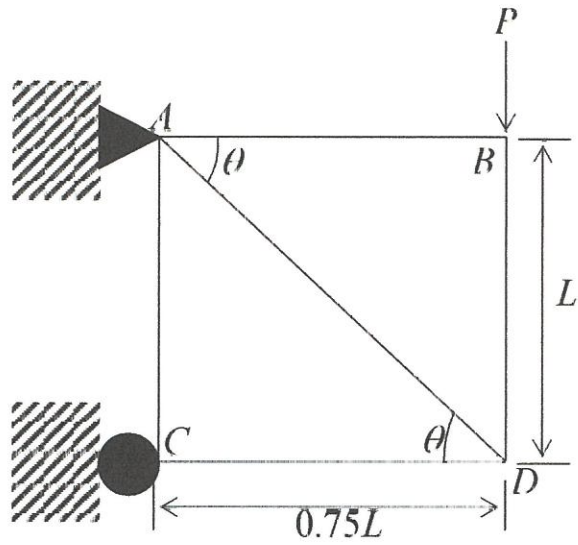

Figure Q4
- Q4** A truss ABCD as shown in **Figure Q4** is subjected to force P at end B. The truss is pin-connected at point A and roller supported at point C. Solve the following problems: